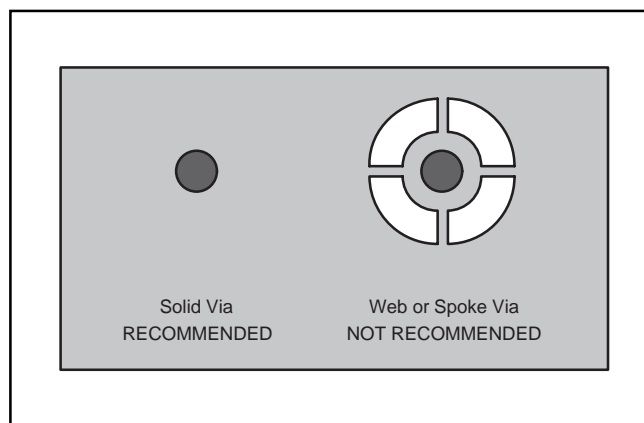

FIGURE 17. Via Connection.
6. When laying out these holes to the ground plane, do not use the typical web or spoke via connection methodology, as shown in Figure 17. Web connections have a high thermal resistance connection that is useful for slowing the heat transfer during soldering operations. This makes soldering the vias that have ground plane connections easier. However, in this application, low thermal resistance is desired for the most efficient heat transfer. Therefore, the holes under the PowerPAD package should make their connection to the internal ground plane with a complete connection around the entire circumference of the plated-through hole.